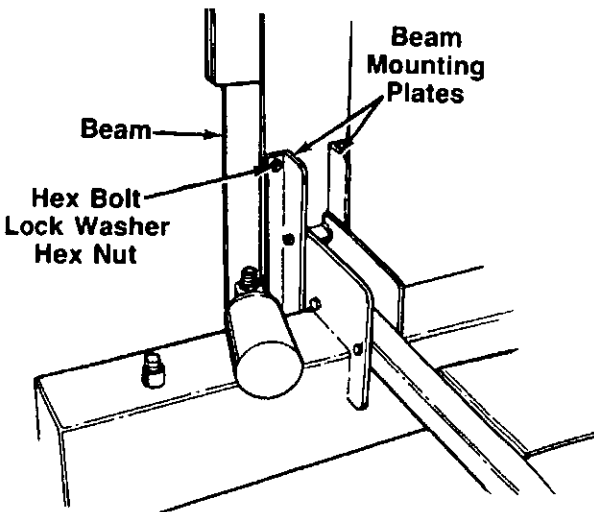

FIGURE 5.
2. Remove the four hex bolts, lock washers and hex nuts from the beam mounting plates. A 5/8" and an 11/16" wrench are required. See figure 5. ←